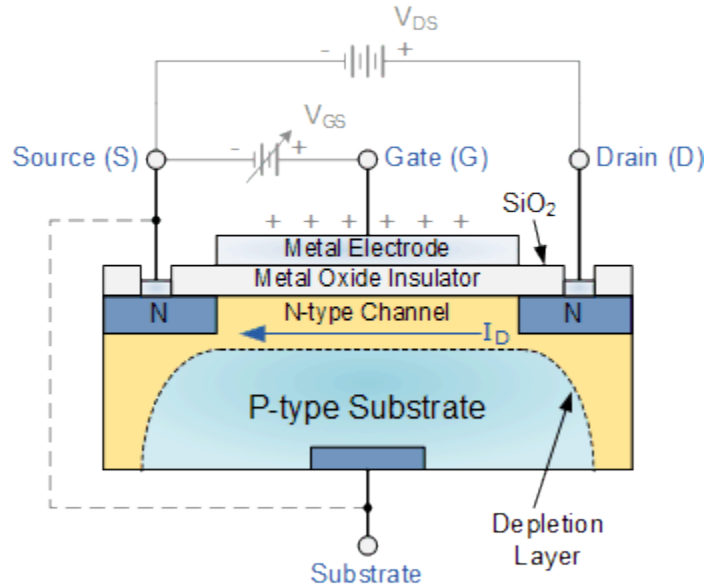

Fig. 4.2 Working of FET
The current-carrying path that exists between the source and drain terminals is known as “channel” which can be composed of either N-type or P-type semiconductor material. Refer to Figure 4.2 for working of FET.
- When a JFET is connected to a supply with the polarity shown in Figure 4.2 (drain +ve for an n-channel FET, -ve for a p-channel FET), a drain current ( $I_D$ ) flows and can be controlled via a gate-to-source bias voltage  $V_{GS}$ .